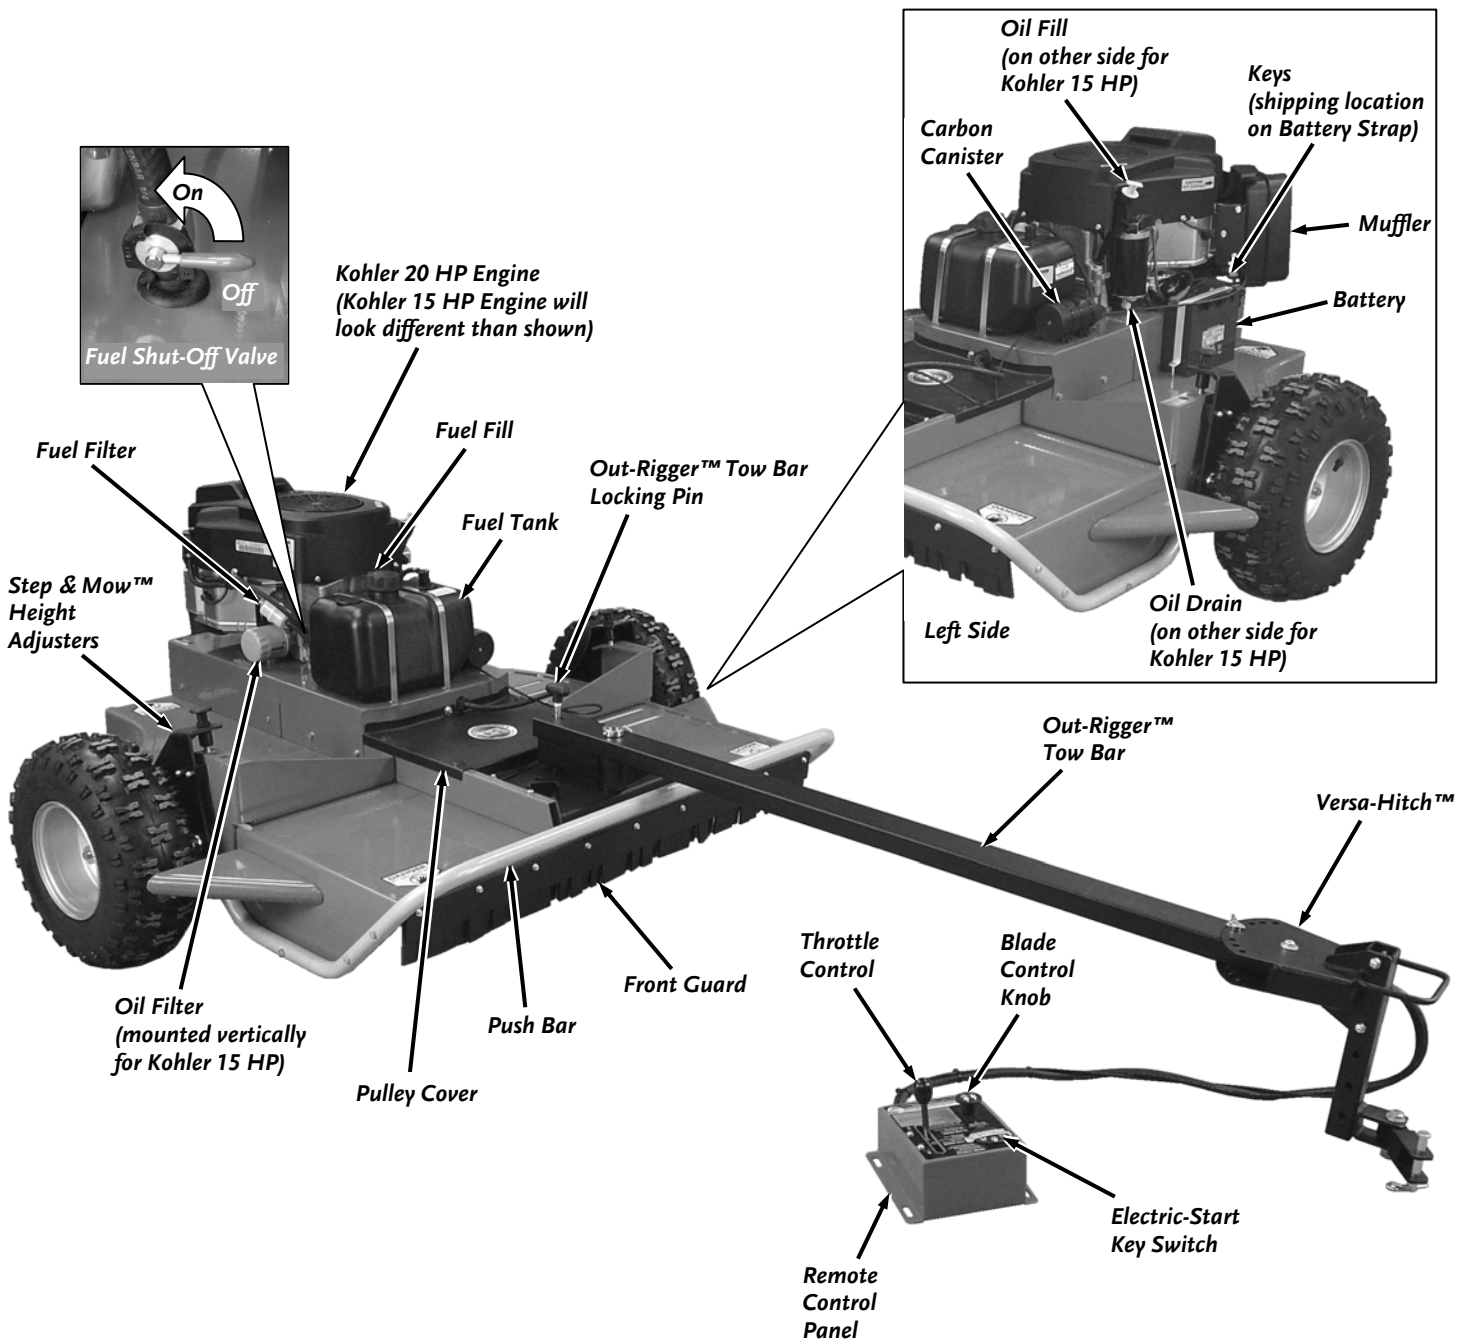

Figure 1
It may be helpful to familiarize yourself with the controls and features of your TOW-BEHIND DR FIELD and BRUSH MOWER by reviewing **Figure 1** before beginning these procedures. If you have any questions at all, please feel free to contact us at [www.DRpower.com](http://www.DRpower.com).
**NOTE:** The model shown in Figure 1 may look slightly different from your machine.
Unpacking and assembling the TOW-BEHIND DR FIELD and BRUSH MOWER is a two-person job as the 15 HP unit weighs 442 pounds and the 20 HP unit weighs 485 pounds. We recommend you have an extra set of hands available before you begin. Electric Start models have the Key located on the rear of the Battery Strap as shown in Figure 1 on page 7.